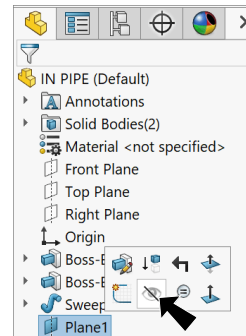

Fig. 24
Step 1. **Hide Plane1** . To hide, click **Plane1**  in the Feature Manager and **Hide**  on the context toolbar, **Fig. 24**.